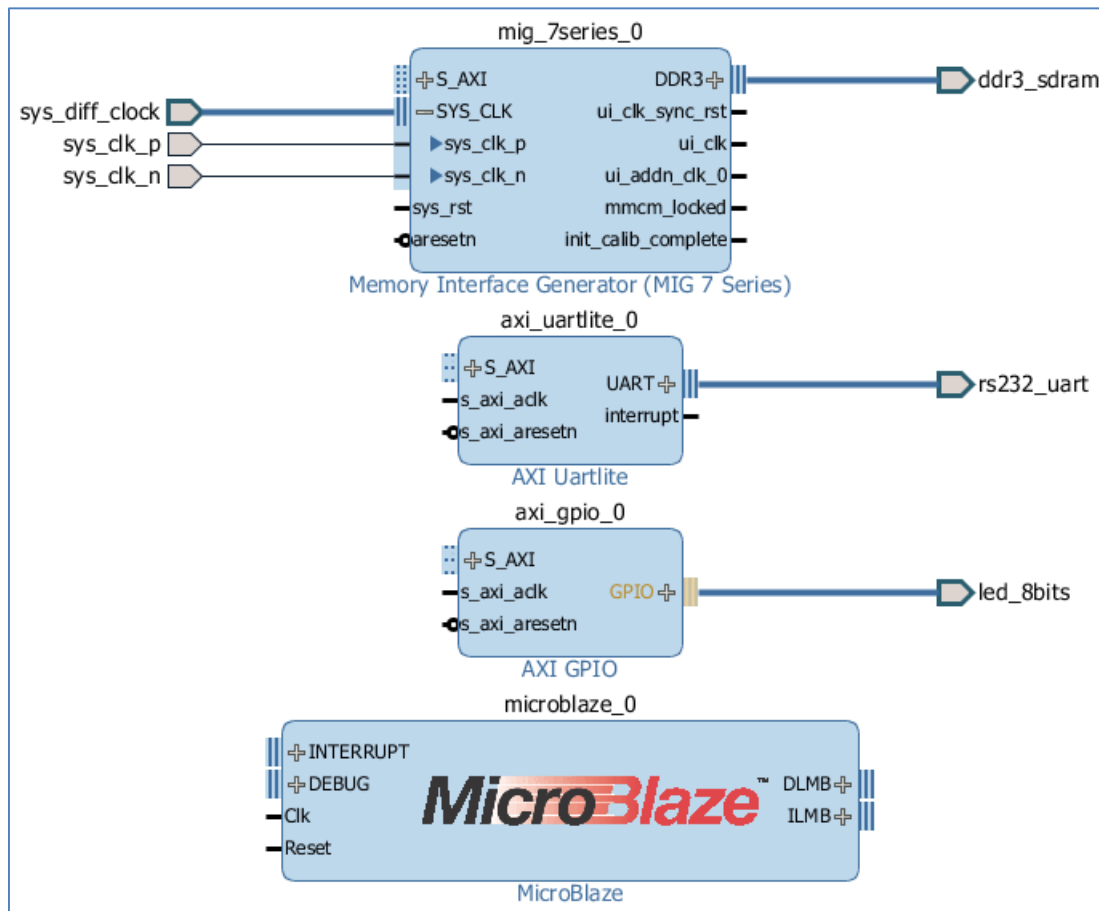

Figure 92: Block Design After Connecting the rs232_uart and the led_8bits Interfaces
9. The block design now should look like Figure 92.